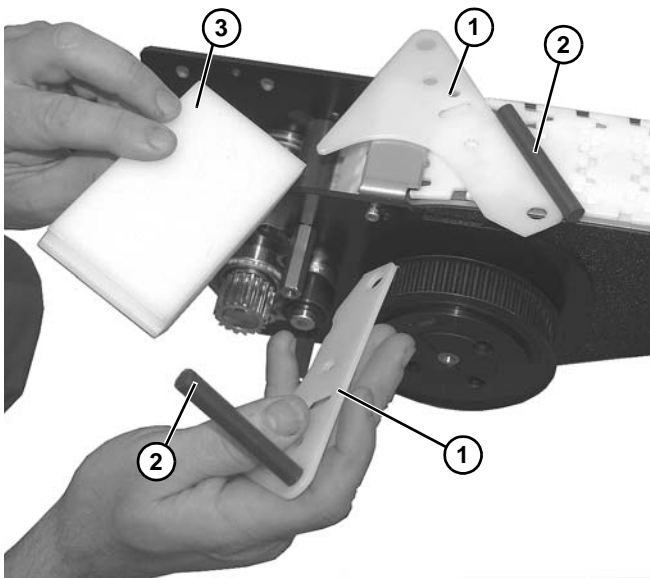

Figure 132
11. Disassemble side guide plates (**Figure 132, item 1**), wear rods (**Figure 132, item 2**), and wear bar (**Figure 132, item 3**). Replace worn components.